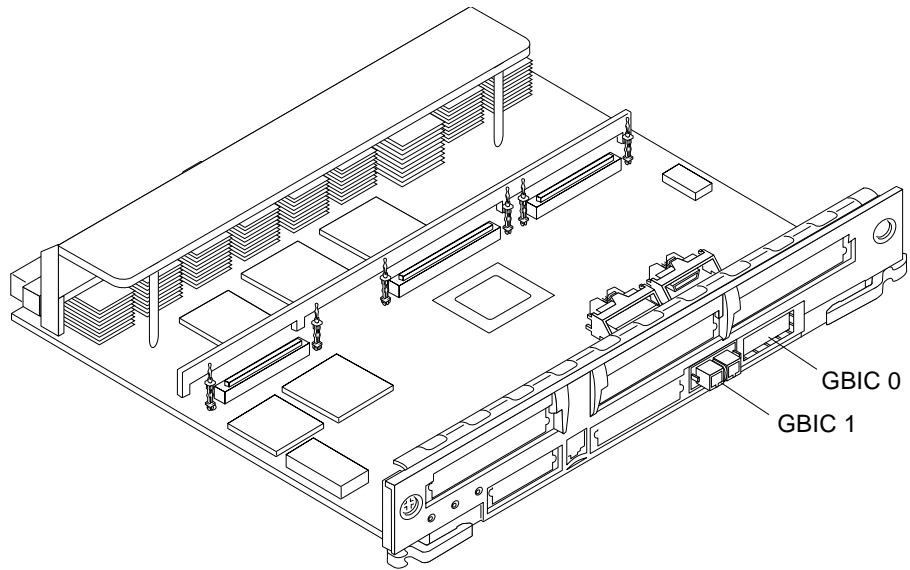
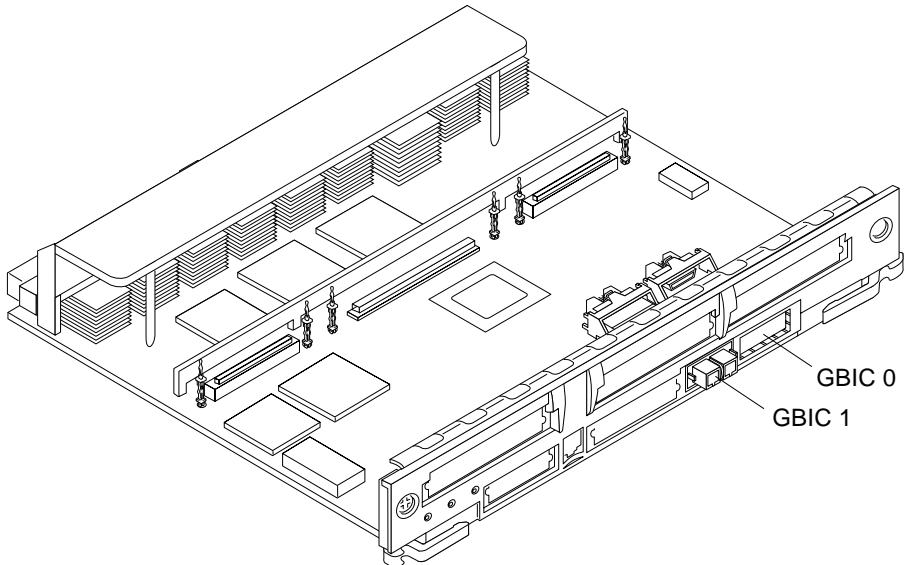

FIGURE 4-20 SBus+ I/O Board GBIC Connector Locations
FIGURE 4-21 Graphics+ I/O Board GBIC Connector Locations
1. **Locate the GBIC to be removed (FIGURE 4-20 or FIGURE 4-21).**
1. Locate the GBIC slot for installation (FIGURE 4-21).